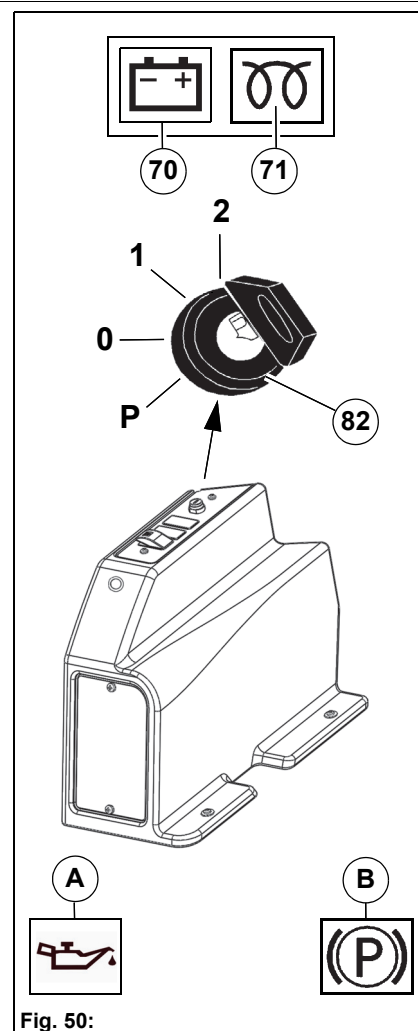

Fig. 50:
- If the engine oil pressure warning symbol **Fig. 50-A** in the multifunction display lights up with the engine running, there is a risk of engine damage! Stop the vehicle in the safe range. Turn the engine off immediately and check the oil level. Have the cause of the inadequate engine oil pressure remedied.
- The parking brake warning symbol **Fig. 50-B** in the multifunction display may light up.